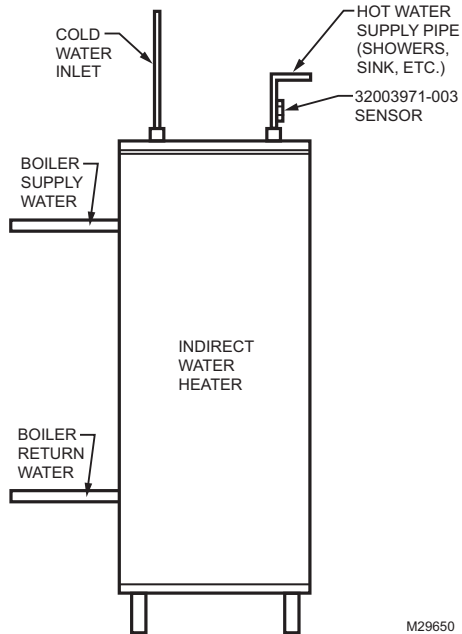

Fig. 1. Installing the 32003971-003 Temperature Sensor.
8. Mount the 32003971-003 Temperature Sensor on the tank outlet pipe within 2 inches from the tank using the wire straps included in the sensor kit. See Fig. 1.